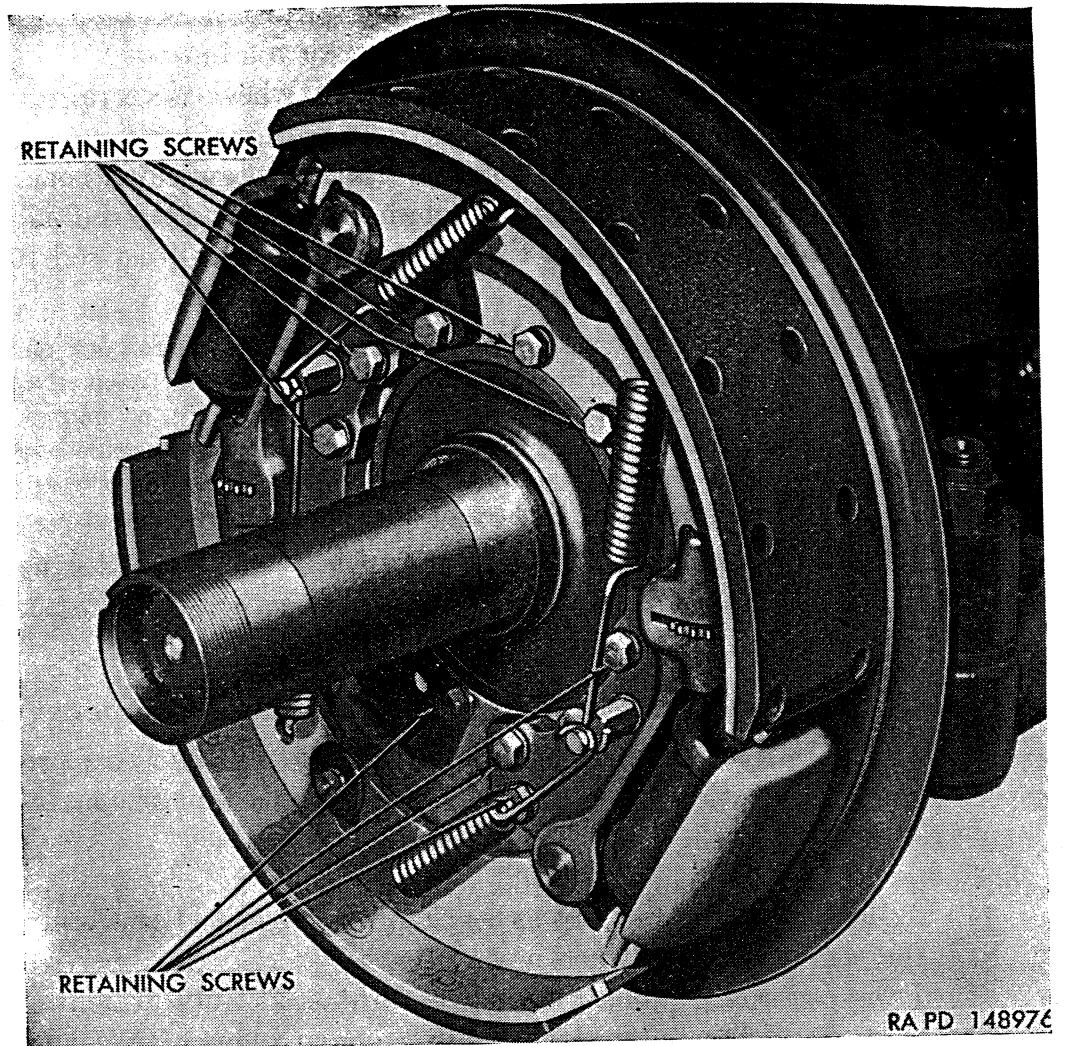
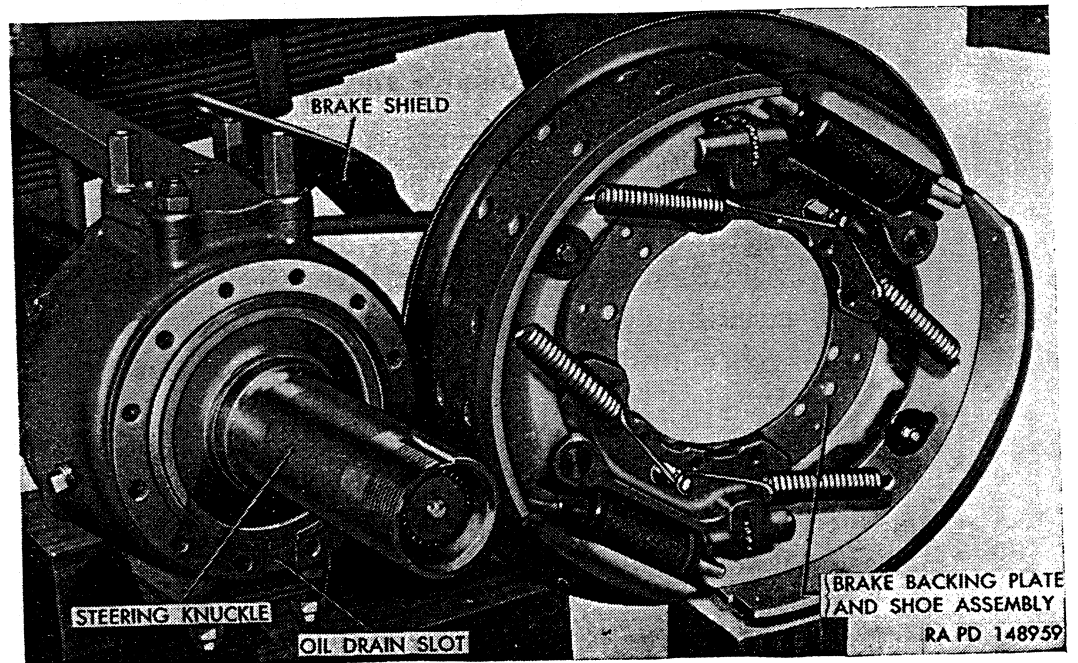

Figure 229. Brake backing plate and shoe assembly installed.
Figure 230. Brake backing plate and shoe assembly removed showing steering knuckle.
- (1) *Remove wheel.* Jack up axle; then remove wheel stud nuts, and remove tire and wheel assembly.
- (2) *Remove drive flange.* Remove eight stud nuts attaching drive flange to hub. Strike hub a sharp blow with a soft hammer to loosen tapered split dowels; then remove dowels from studs. Thread two  $\frac{1}{2}$ -20 cap screws into the tapped holes in drive flange. Turn screws in evenly and alternately until flange is removed. Remove and discard flange to hub gasket.
- (3) *Remove hub and drum.* Remove wheel hub and brake drum assembly (par. 266a).
- (4) *Loosen brake hose shield.* Remove three cap screws and lockwashers attaching brake hose shield to top of steering knuckle support to permit utilizing full length of brake flexible hose when brake backing plate and shoe assembly is removed.
- (5) *Remove brake backing plate and shoe assembly.* Remove 12 retaining screws and lockwashers attaching brake backing plate (fig. 229) to steering knuckle. Observe installed position of backing plate so that it can be reinstalled in its original location. Mark backing plate. Remove backing plate and shoe assembly from steering knuckle and swing over end of steering knuckle (fig. 230).
*Note.* Milled oil drain slot (fig. 230) in steering knuckle flange must be at the bottom as shown.
- (3) *Install brake backing plate and shoe assembly.* Swing backing plate and shoe assembly over end of steering knuckle (fig. 230) and into place against steering knuckle, being sure plate is properly located as noted at time of removal. Aline bolt holes in plate with those in steering knuckle. Apply liquid-type gasket cement to female threads of steering knuckle and to threads of retaining bolts to insure a leakproof fit. Install four  $\frac{3}{8}$ -16 x  $1\frac{5}{16}$  bolts and  $\frac{3}{8}$ -inch lockwashers through brake backing plate and steering knuckle flange. Install eight  $\frac{3}{8}$ -16 x  $1\frac{11}{16}$  bolts and  $\frac{3}{8}$ -inch lockwashers through anchor block, backing plate, and steering knuckle flange. Tighten all 12 bolts to 27 to 30 pound-feet torque. Install brake flexible hose shield at top of steering knuckle arm studs, using three cap screws and lockwashers. Tighten cap screws.
- (4) *Install hub and drum.* Install wheel hub and brake drum assembly (par. 266g) and adjust hub bearings (par. 265b).
- (5) *Install drive flange.* Install drive flange over splined outer end of axle shaft, using a new gasket between flange and hub. Aline holes in flange with hub studs; then push flange in against hub. Install eight split tapered dowels and  $\frac{1}{2}$ -20 safety nuts on studs and tighten nuts to 55 to 65 pound-feet torque. When nuts have been tightened, inspect for slight clearance (approx.  $\frac{1}{16}$  in) between nut and flange. If no clearance exists, it indicates that dowels, tapered holes in flange, or studs are worn excessively and must be replaced with new parts.
- (6) *Install wheel.* Install wheel and tire on hub (par. 259c).